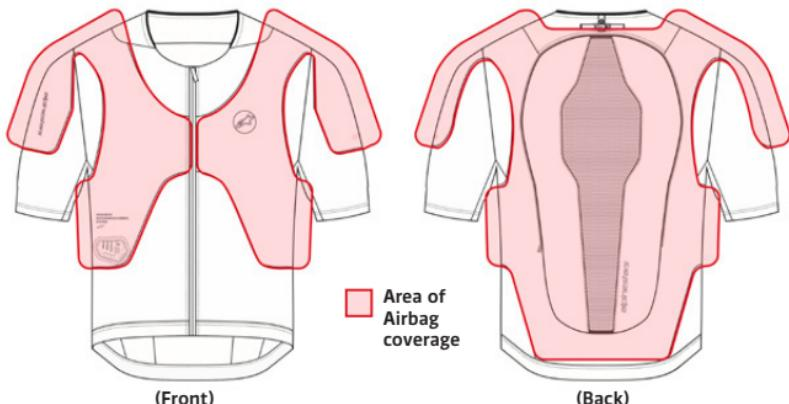

Figure 2: Area of Airbag (11) coverage
The System is equipped with an Airbag (11) that covers the areas shown in Figure 2, protecting the motorcycle User who's wearing the System in the event of an accident or other triggering events. There are limitations to the protection that the System can provide as explained later in this User Manual (Section 4, "Limitations of Use").
WARNING! The System provides only limited impact protection against forces in the areas of Airbag (11) coverage as depicted in Figure 2. No guarantee is given that the System will prevent injuries (including severe or fatal injuries) inside and/or outside the areas of Airbag (11) coverage or the Envelope of Protection.